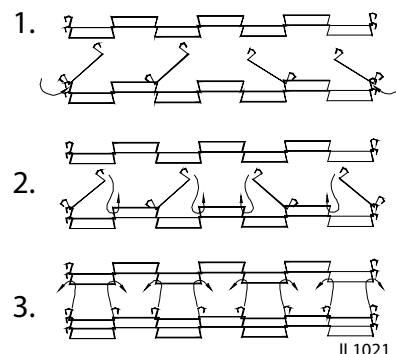

Fig 1. Master Links
3. Heavily soiled conveyor surfaces, locate the Master Links on the conveyor belt. Follow the step 1 in Fig 1, to remove all of the Master Links. 314 models have 3 master links, 318 models have 4 master links.
11. Reinstall the previously removed master links as shown in steps 2 & 3 in Fig. 1.